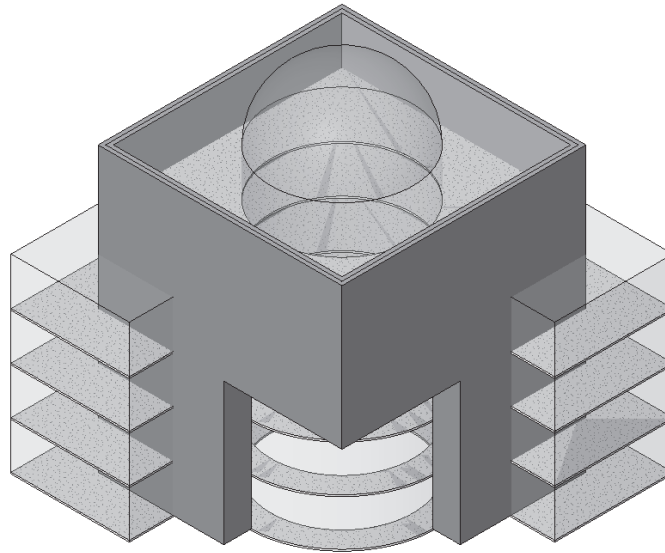

Figure 9-51 Converting massing into walls
11. Similarly, highlight and click on the other exterior walls of the central hall, including the two side walls of the entrance. The resulting 3D view is shown in Figure 9-51.